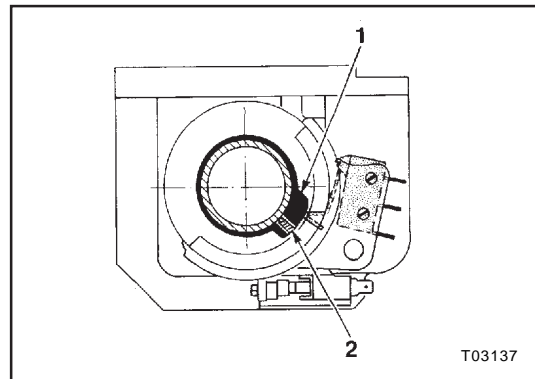

**Figure 26 : Safety re-open switch adjustment**
**Safety re-open switch - Figure 26**